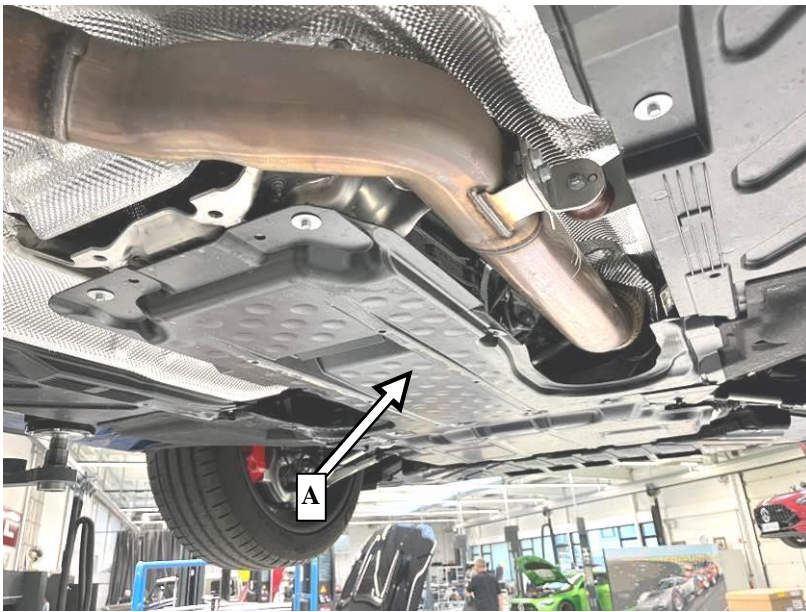

Figure 1
2. Remove rear engine compartment lining (**Figure 1, A**).